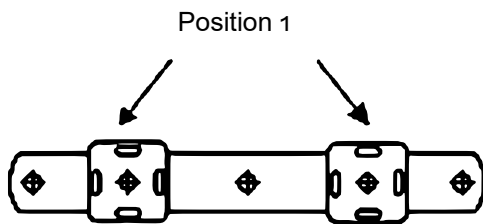
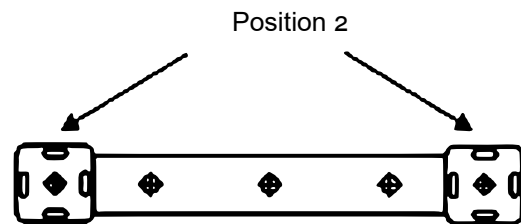

Figure 2a
Figure 2b
1. With the help of the pin shaft and the winged nut, mount two modules onto the fixing rail that has two mounting positions. If you use a type-1014, -1216, -1418, and -1620 pipe, install the modules in pos. 1 as shown in Fig. 2a. If you use a type-2025 and -2623 pipe, install the modules in pos. 2 as shown in Fig. 2b.